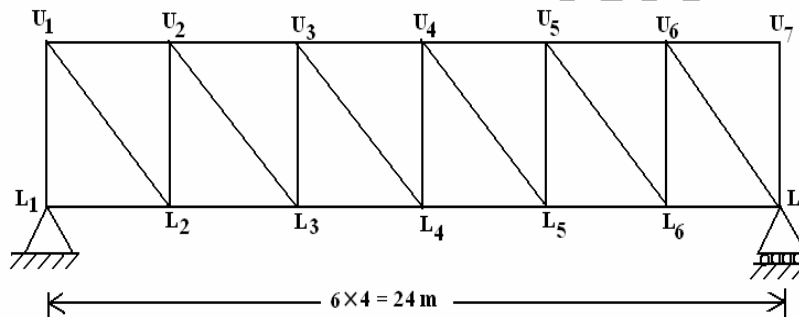

Fig.5
7. Draw the influence line diagram for forces in the members U_2L_3 , U_3L_4 , U_3U_4 and U_3L_3 of the frame shown in Fig.5 and find the maximum forces developed when uniformly distributed load of intensity 65 kN/m, longer than span moves from left to right on the bottom chord. [16]